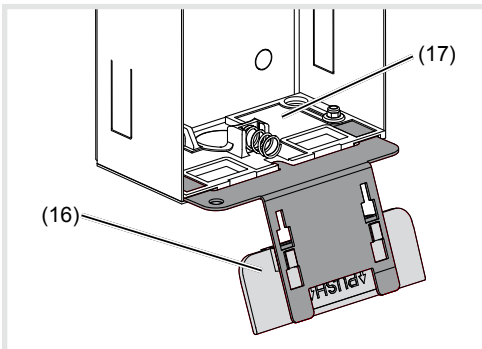

Figure 5: Inserted opening tool
- Insert opening tool (16) into the mounting device of the lower fastening element (17) on the housing (Figure 5).
- (16) Opening tool
- (17) Fixing element
- Attach the loops of the safety rope (17) to the upper left suspension of the door station and to the upper fastening element (16) in the housing. Place the door station for installation onto the opening tool (Figure 5).